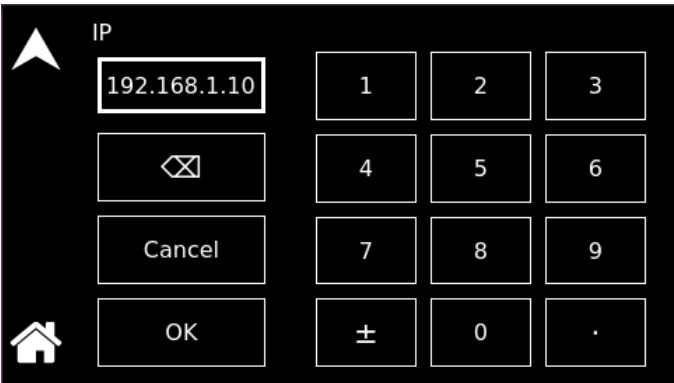

Figure 9-170. LAN Screen - IP Address
- IP Address:** Sets the static IP address for the unit. When DHCP is turned off in the LAN CONFIG sub-menu, AUTO IP is selected, set the IP address to all zeros so that the IP address would be requested from the network; when DHCP is selected, the IP address is assigned by the network DHCP server. Refer to Figure 9-170.